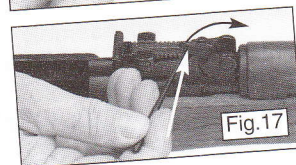

Fig. 17
4. Rotate the gas cylinder tube lock (use a pin punch or similar pointed object) (Fig. 17) to its uppermost position and lift the rear of the hand guard to remove the gas cylinder tube and gas piston. Lower front end of tube and allow piston to slide out.